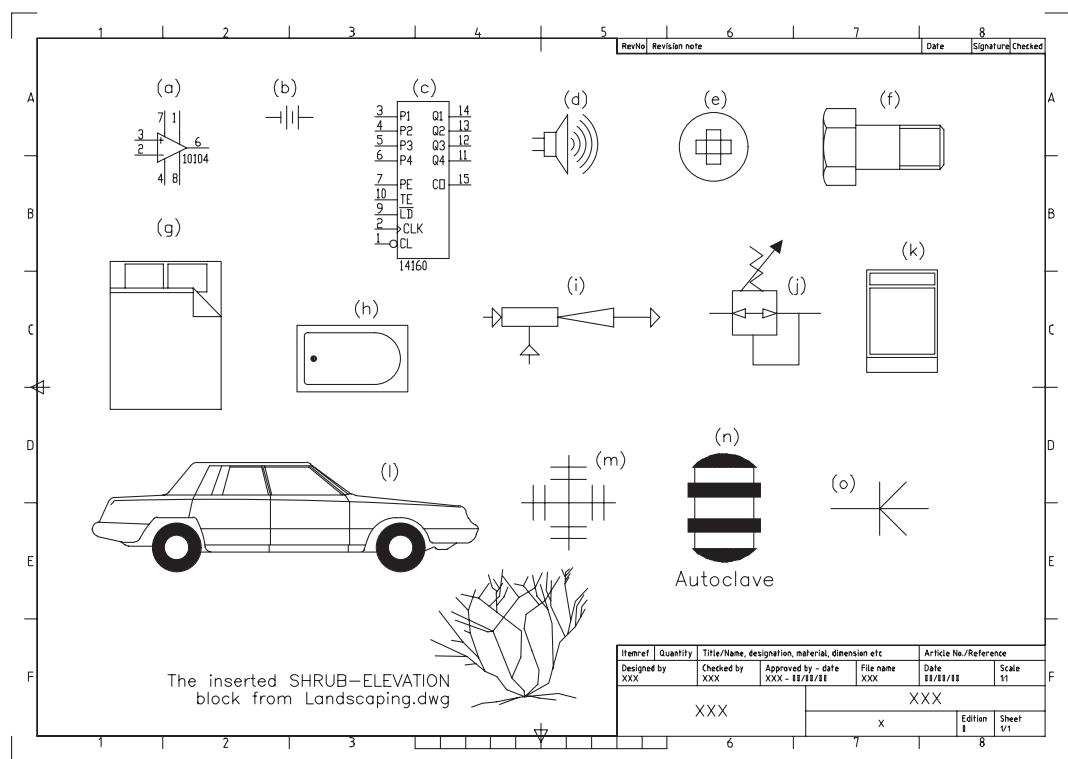

Figure 31.9 Stored AutoCAD blocks – first named.
- 6 a) Refer to Figure 31.9 and drag-and-drop into the opened A3PAPER the first named block from every drawing of the explored Sample-Design Center hierarchy